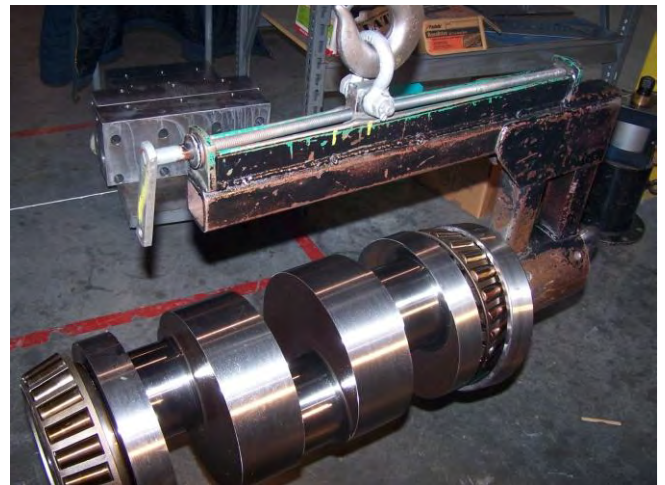

Figure 156: Install Crankshaft
9. Once the crankshaft/bearings have cooled, install crankshaft horizontal lifting tool (PN 58195) on the crankshaft output shaft and hoist as needed to install in powerframe. Bearing race should already be on crankshaft. (Figure 156)